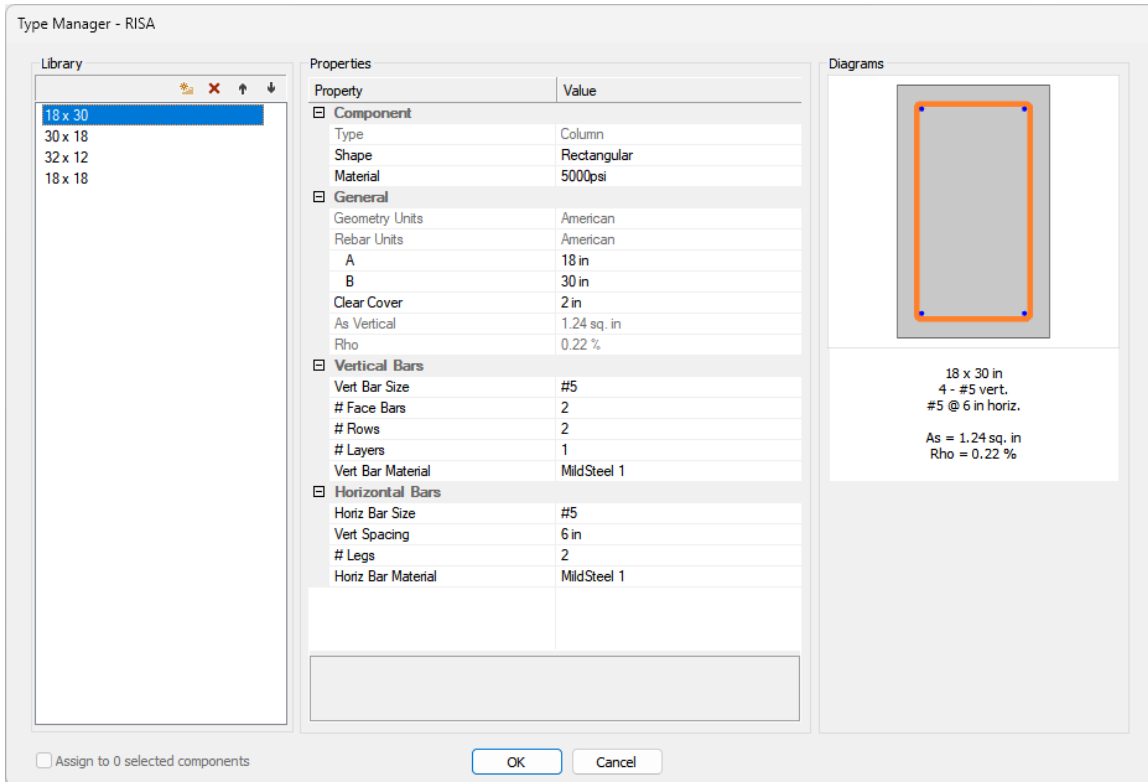

FIGURE 5-15
- All columns have been assigned a Section Type upon creation. Go to *Model->Type Manager* and click on the **Define Section Type**  icon. The *Type Manager* window will open as shown in **FIGURE 5-15**.